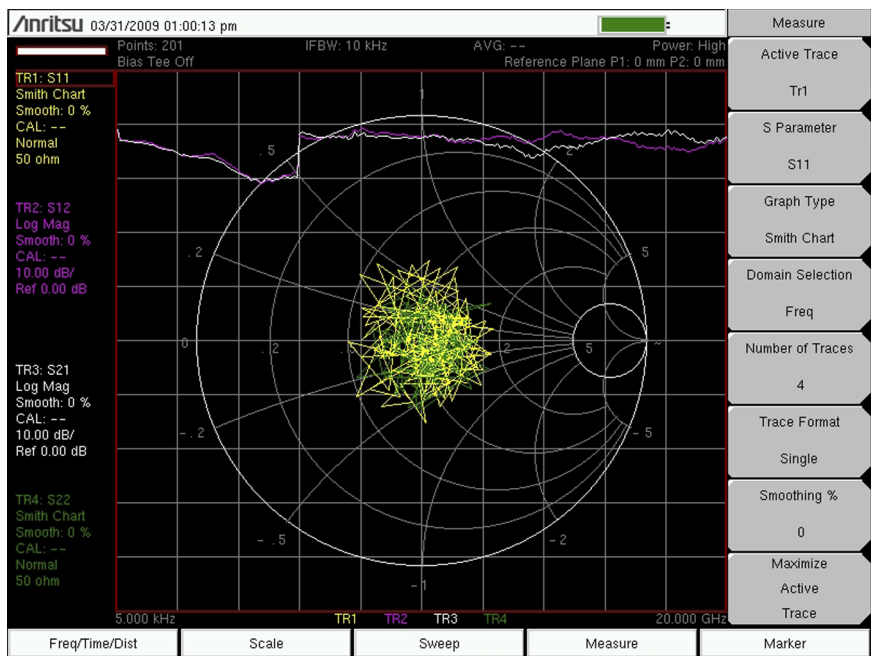

Figure 2-2. Format = Single, Traces = 4 (MS202xC trace shown)
2. Beginning with the default view, set Trace Format = Single, and Number of Traces = 4. Notice how all 4 traces are overlaid on a single graph. Refer to Figure 2-2 on page 2-4.